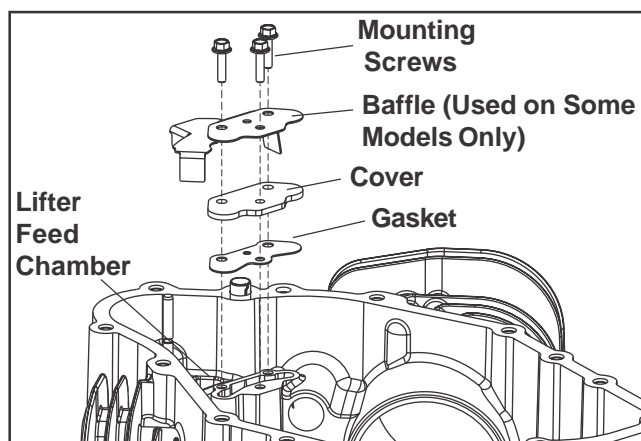

Figure 10-4. Lifter Feed Chamber Assembly Details.
2. Install the three screws. Make sure all the parts are properly aligned. Torque the screws to **6.2 N·m (55 in. lb.)** into new holes, or **4.0 N·m (35 in. lb.)**, into used holes. See Figure 10-4.